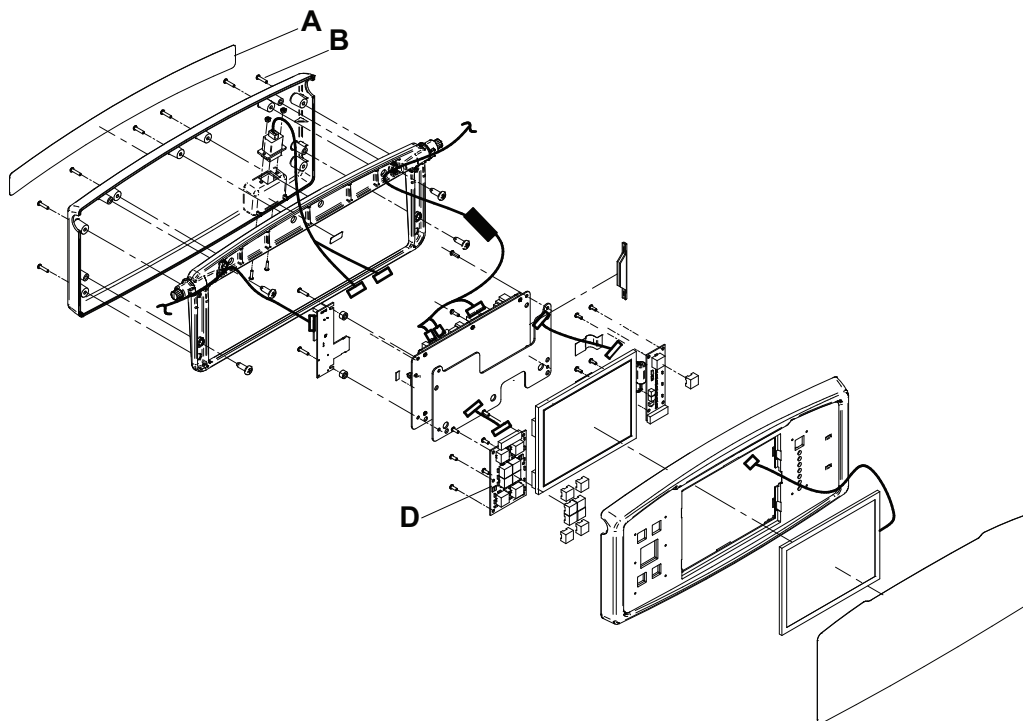

Figure 59 – Footboard assembly
3. Using a small slotted screwdriver or a utility knife, remove the fascia back foot control label (A) (Figure 59).
4. Using a #2 Phillips screwdriver, remove the six screws (B) that secure the footboard display panel to the footboard (Figure 59). Save the screws.
9. Using a #2 Phillips screwdriver, remove the two screws that secure the Wi-Fi antenna p-clamps to the brake control board (D) (Figure 59). Save the screws.